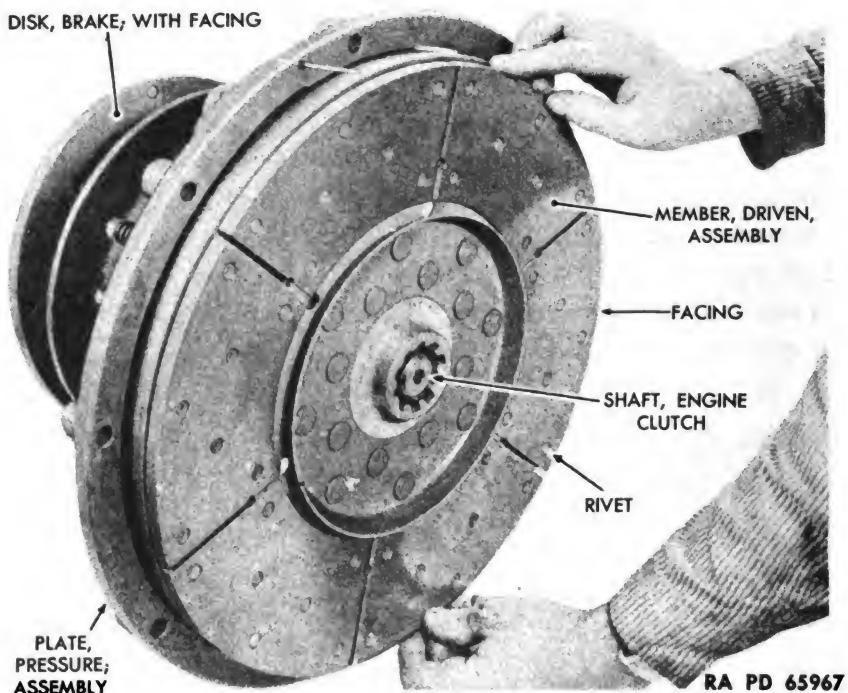

Figure 18 – Lifting Off Engine Clutch Driven Member Assembly
(1) LIFT OFF ENGINE CLUTCH DRIVEN MEMBER ASSEMBLY FROM COMPLETE ENGINE CLUTCH (fig. 18).
(2) REMOVE ENGINE CLUTCH SHAFT AND BRAKE DISK WITH FACING (fig. 18).